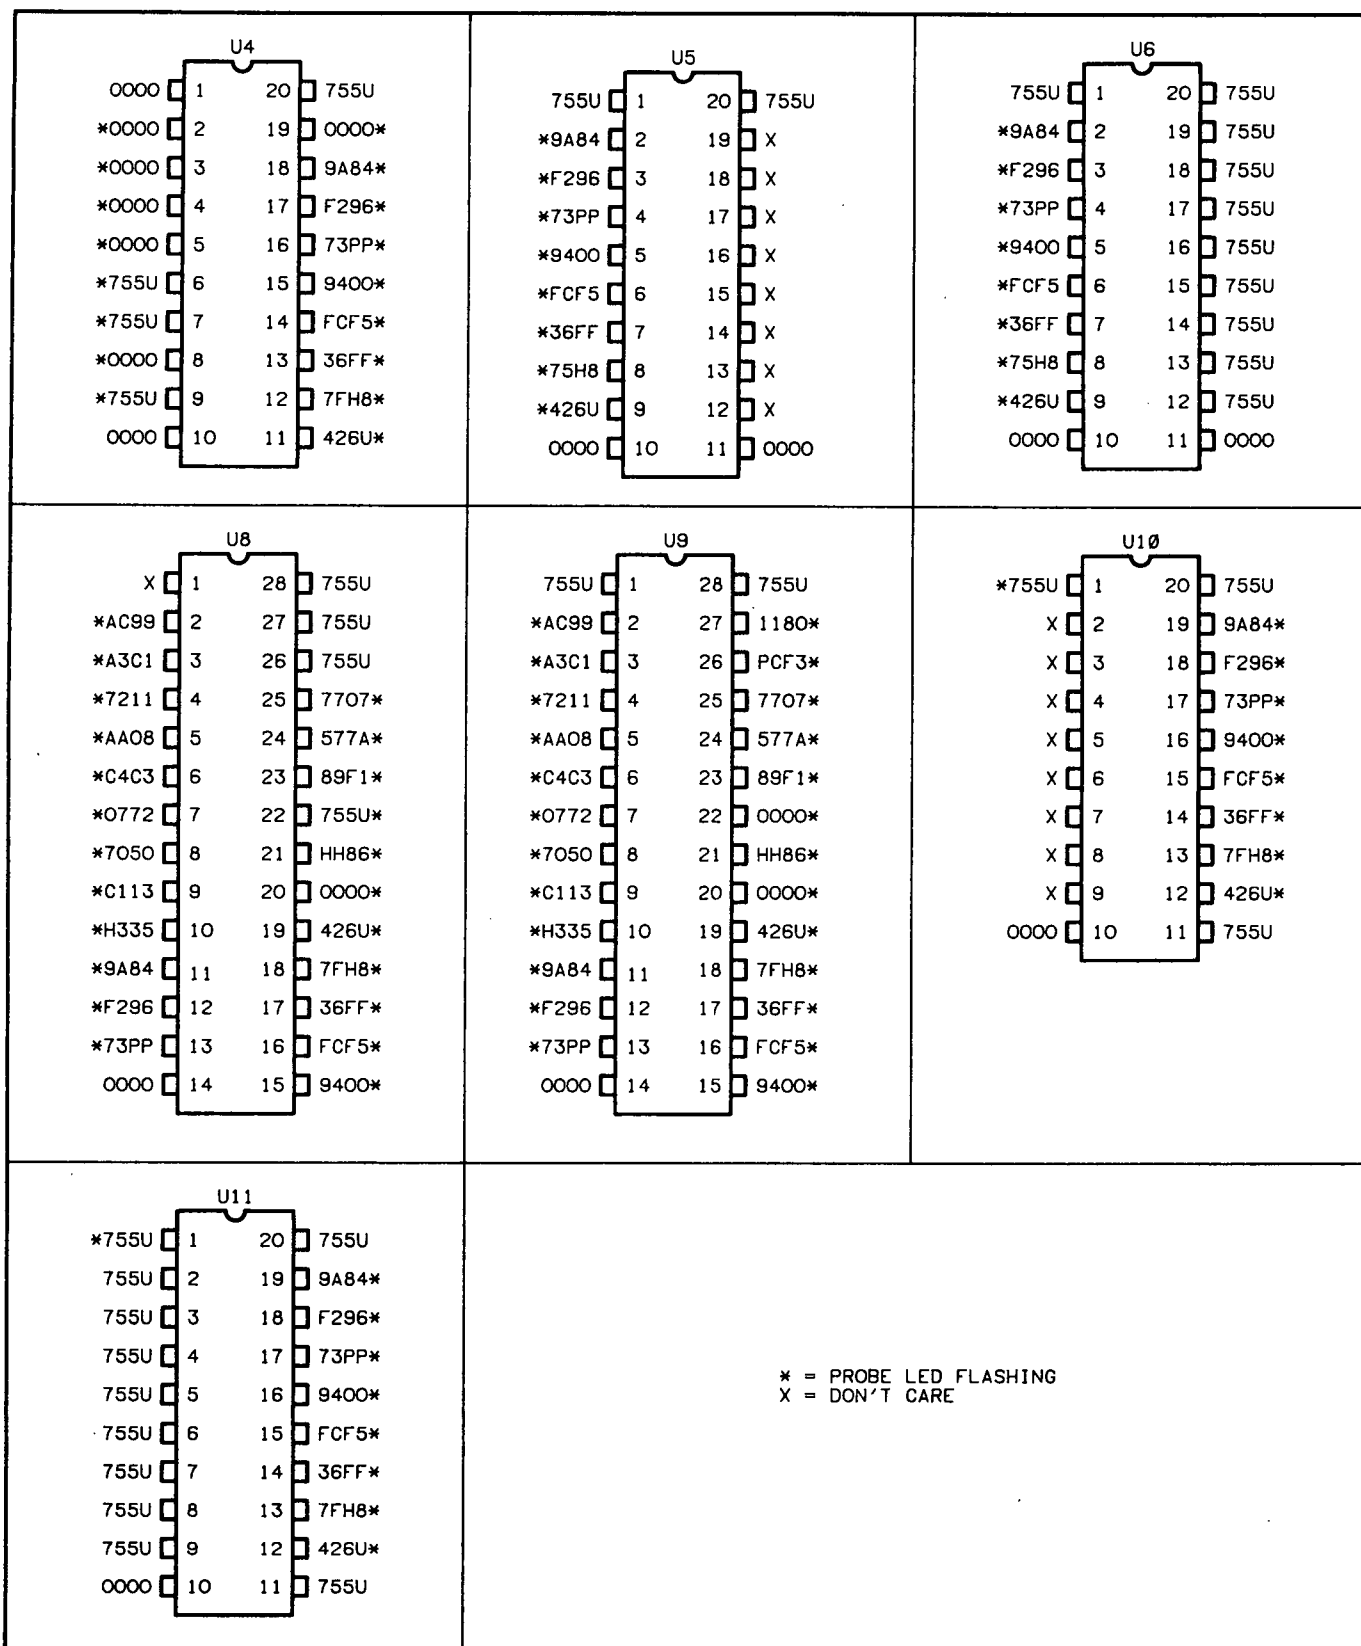

Figure 8-17. HP 5334B, Option 700 Signatures for Setup 3
- d. Power up the Counter and verify the signatures shown in *Figure 8-17*.